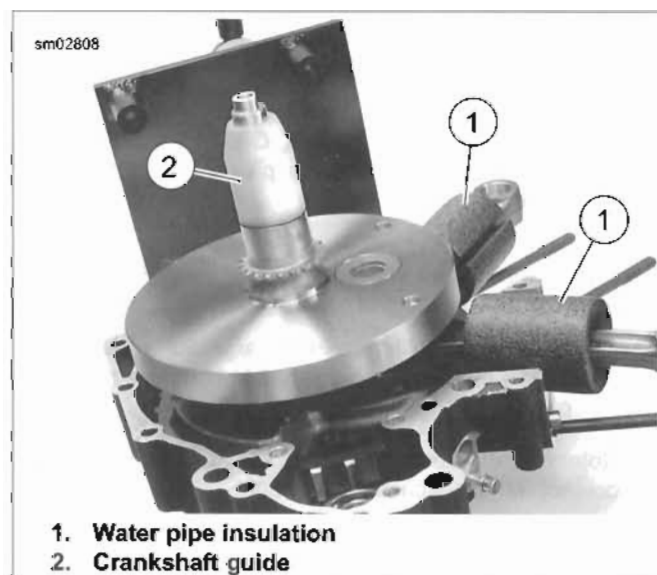

Figure 3-166. Crankshaft Guide (Part No. HD-42326-B)
6. See Figure 3-166. Place CRANKSHAFT GUIDE (Part No. HD-42326-B) (2) over end of crankshaft until it contacts shoulder on shaft.